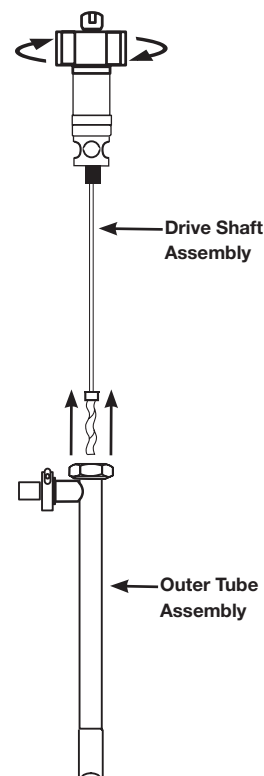

Figure 6
8. Once the Hex Nut is loosened, remove the outer tube from the drive shaft assembly (see Figure 6).
- Once Bearing Housing, drive shaft, and rotor are securely threaded together, insert this assembly into the pump body (see Figure 6, page 4).